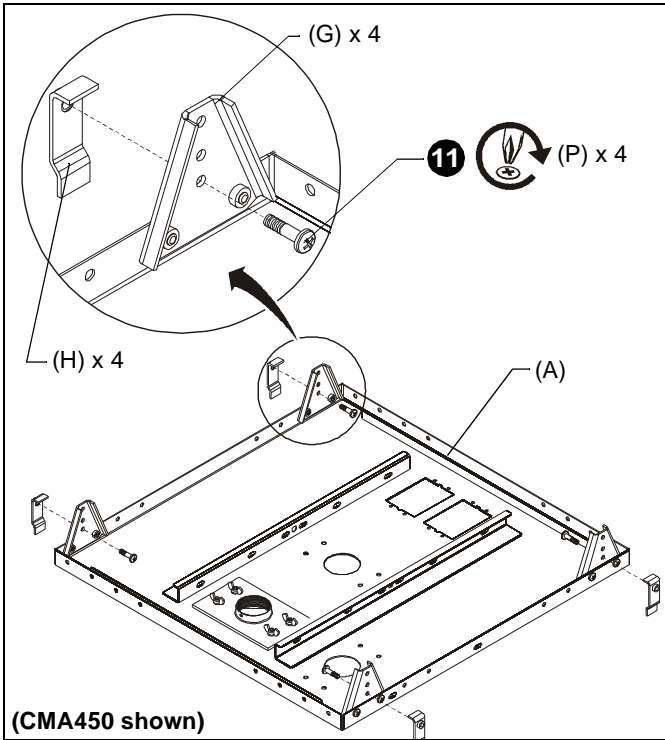

Figure 7
11. Loosely install ceiling framework clamps (H) to hanger brackets (G) using 1/4-20 x 1" Phillips head screws (P) (See Figure 7).
- **FOR INSTALLATION ON TOP OF EXISTING TILE:** Use **lower** hole on bracket (G).
- **FOR REPLACEMENT OF EXISTING TILE:** Use **middle** hole on bracket (G).